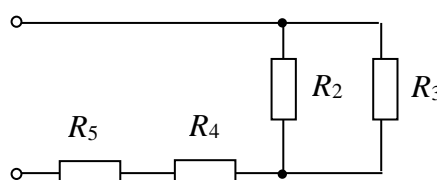

Fig.2.7
To calculate the current in a circle (fig. 2.7), if known the resistances of resistors R_2 , R_3 , R_4 , R_5 and the maximum power P_n allocated to the resistor R_n in the unforked circuit. To define total current, input voltage and subcircuits voltages, branches currents, power of the circuit and the powers of subcircuits. To write down the results to the table 2.2 item 1. Tasks variants are listed in the table 2.1.